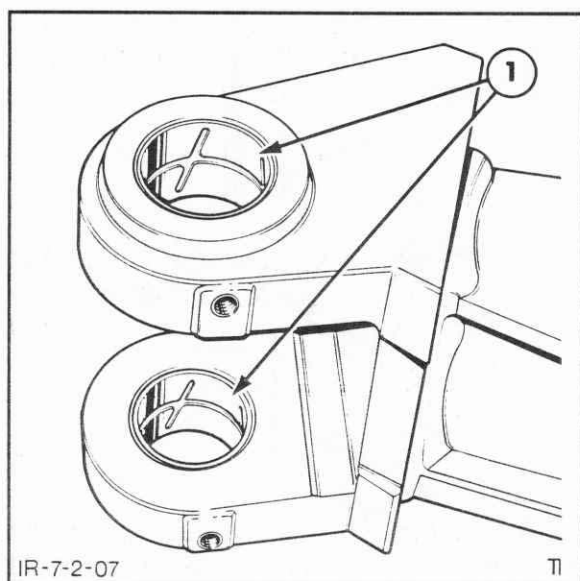

Figure 7-55
4. Inspect the spindle pin bushes in the axle for wear, cracks, or scoring, Figure 7-55. If the pin fit is poor or any side play was noticed before disassembly, install new bushings. The bushings can be removed and installed with bushing kit, Tool No. 818 or 9514.